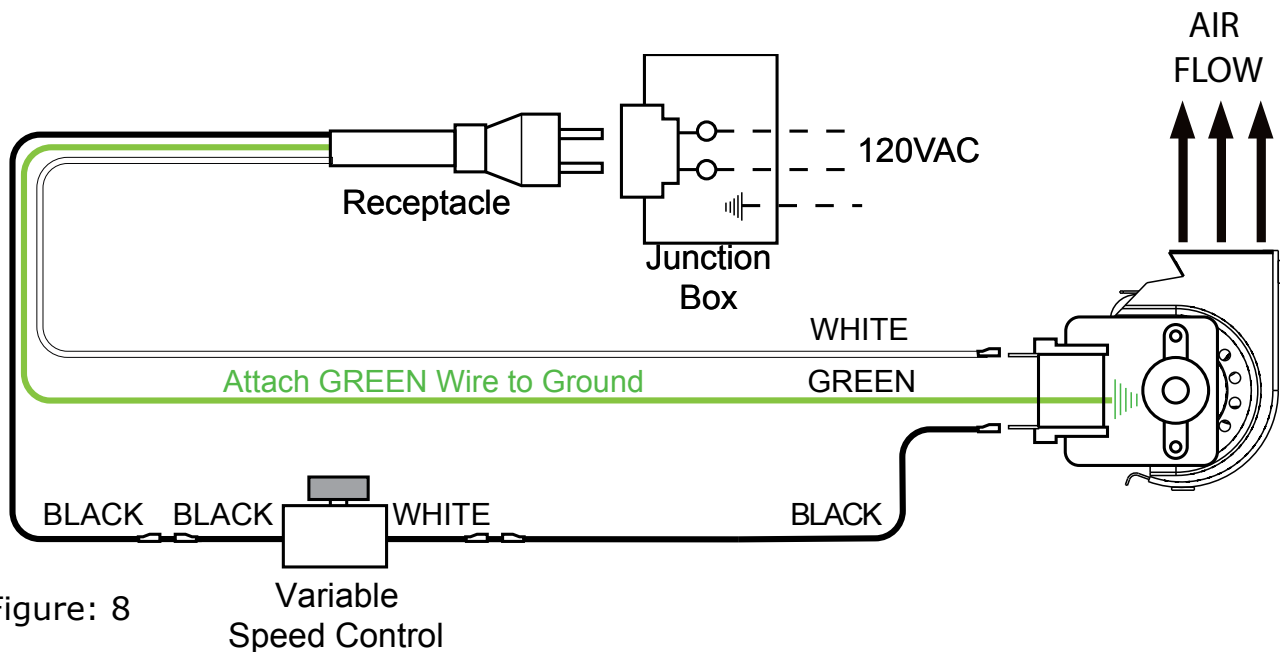

Figure: 8
•Wiring Diagram for this Blower Kit is illustrated in Figure: 8.